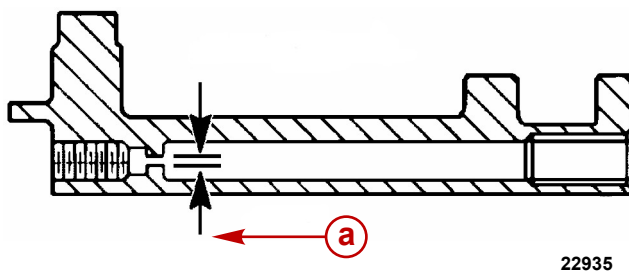

Figure 5. Older shift slide
3. Larger diameter hole inside of shift slide. (Figures 5 & 6)